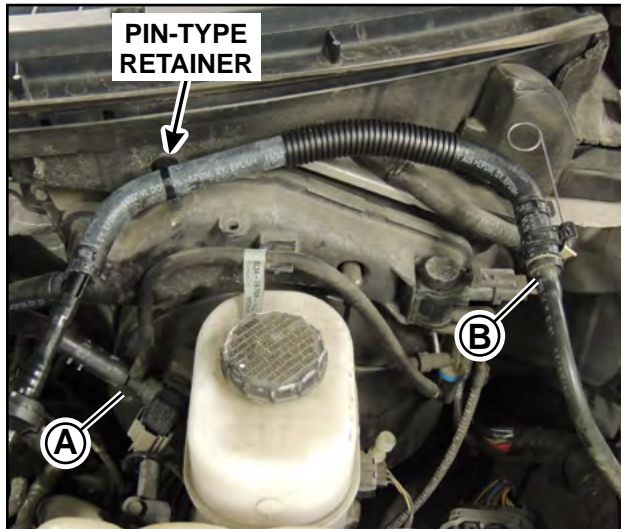

FIGURE 3a
3. Install the *new* vacuum hose and connect the pin-type retainer. See Figure 3a.
4. Connect the vacuum hose at the following locations (see Figure 3a and 3b):